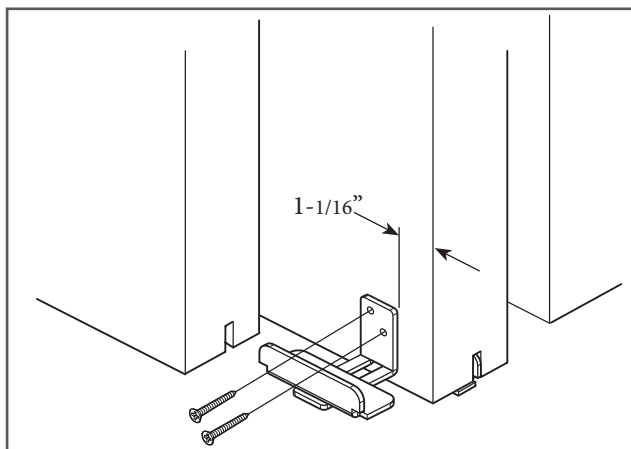

Figure 13
21. Slide both panels or doors toward the open position, sliding the front panel or door past the back for access to the back panel or door lower edge (Figure 13).
22. Mark a line 1-1/16" from the edge of the panel or door (Figure 13).